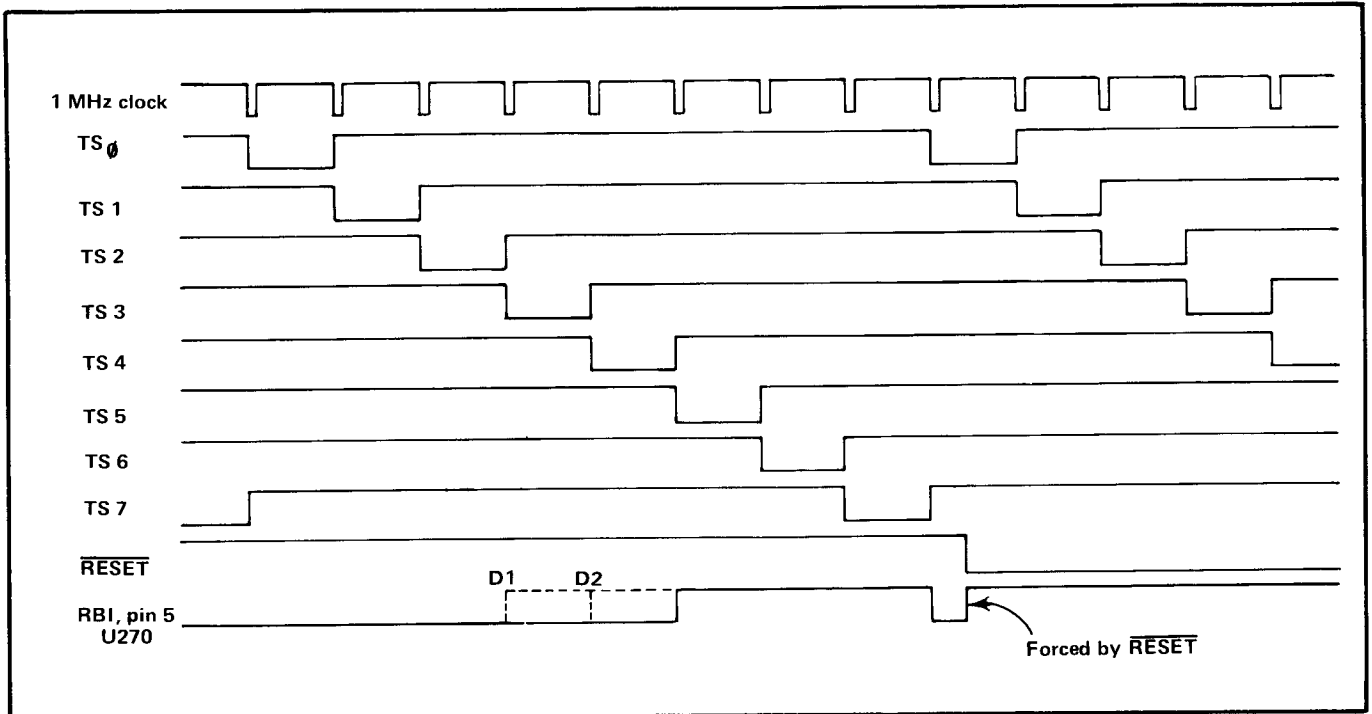

Fig. 2-3. Multiplexing circuit ladder diagram showing timing with an all-zero display.
**÷ 8 Counter and Time-Slot Decoder.** The divide-by eight counter is made up of U262B, U263A, and U262A, which are three halves of SN7474 type D flip-flops. The output of this counter drives U265, and SN74145 BCD-to-decimal decoder. U265 provides eight output lines (designated TS0 through TS7 in the schematics and in Fig. 2-3) to simultaneously enable the output of each counter latch and its corresponding display LED sequentially. For example, when the TS1 line goes LO, Q280 is turned on to supply anode voltage to CR280 at the same time inverter U267C applies a HI to pin 6 of latch U256, enabling its output. Operation in a time sequence allows the latches to share a common set of output lines.